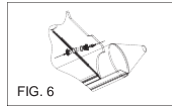

FIG. 6
- Insert the plug into the drain valve on the transom. (FIG. 6)